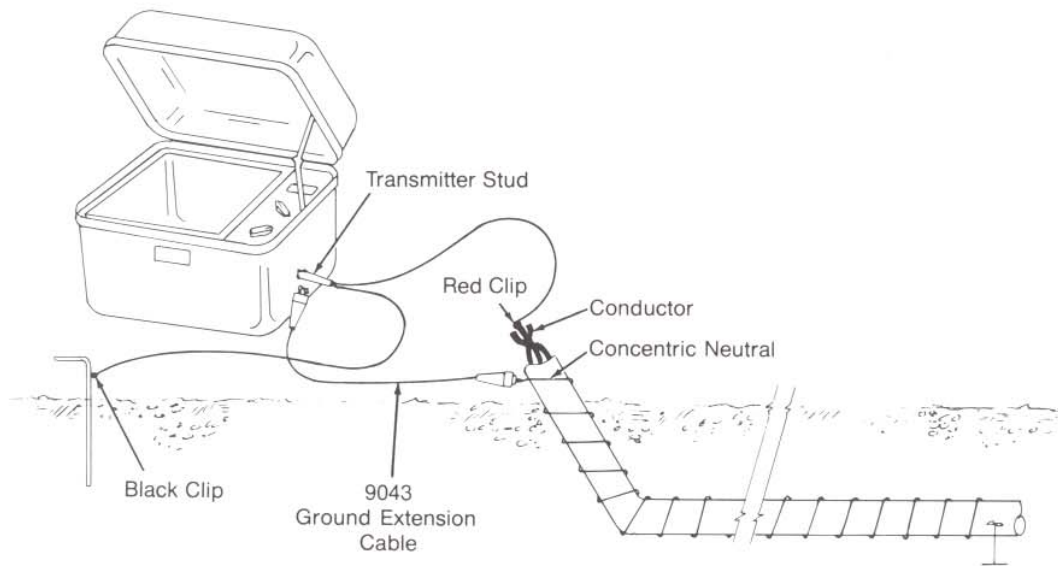

Fig. 15 — 573A/P Attachment: Transmitter Stud to Concentric Neutral
3) Connect the 9043 Ground Extension Cable between the cable neutral and the stud below the Transmitter Output Jack (see Fig. 15). This attachment will place a fault locating signal on the conductor while simultaneously pushing AUDIO tone down the neutral the length of the test section, allowing the operator to locate the entire section path.